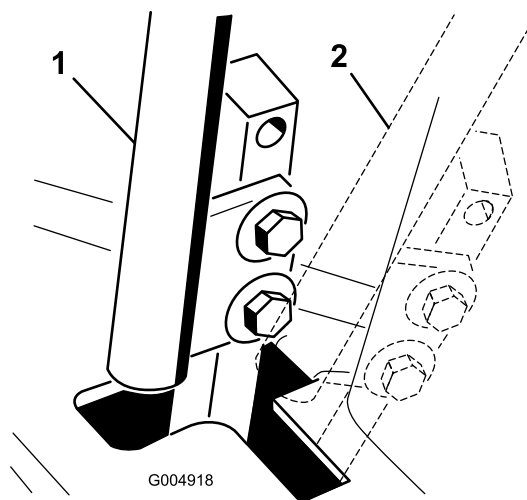

Figure 60
4. Move the control lever to the neutral position but **not locked** (Figure 60).
6. Check where the control lever is relative to notch in console (Figure 60).